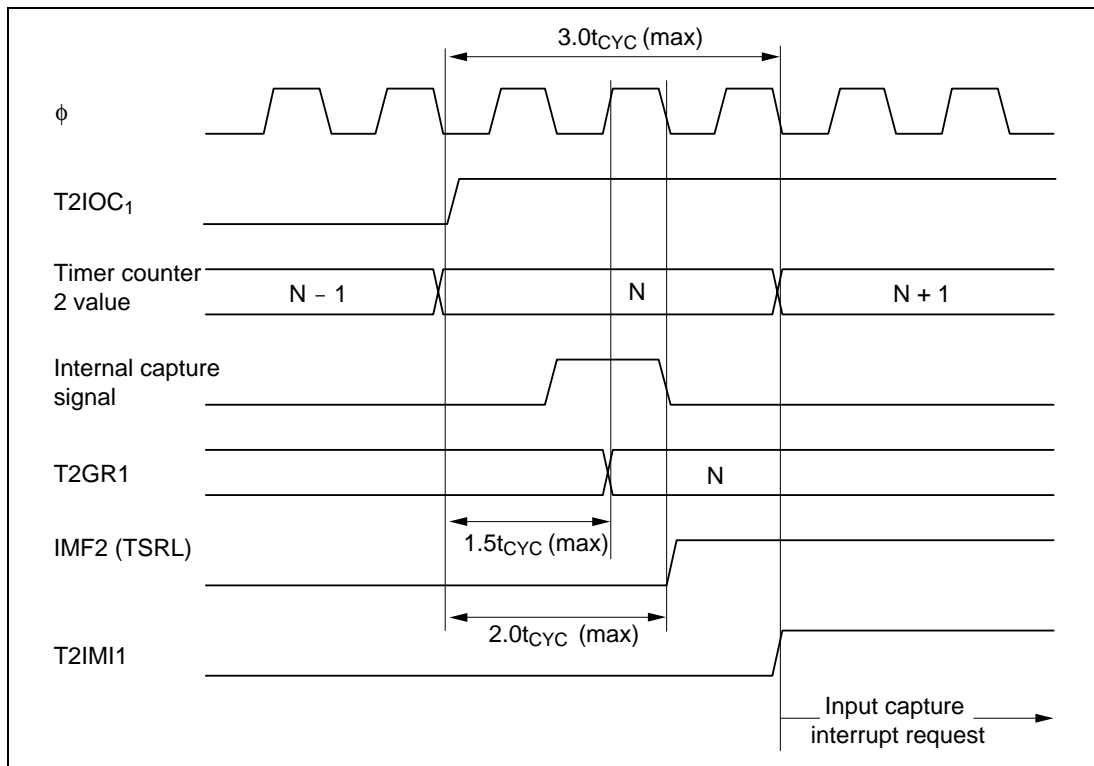

Figure 11-47 Timing from Capture Input to Input Capture Interrupt Request
(2) Input Capture Timing: Figure 11-47 shows the timing from capture signal input to generation of an input capture interrupt request. A maximum $1.5t_{CYC}$ after input of the capture signal, the IPU transfers the timer counter value (N) to T2GR1. The input capture/compare match flag (IMF) is set $0.5t_{CYC}$ after the input capture transfer. The interrupt request (T2IMI1) is generated $1.0t_{CYC}$ after IMF is set. The T2IMI1 interrupt request therefore comes a maximum $3.0t_{CYC}$ after the counter value becomes N.